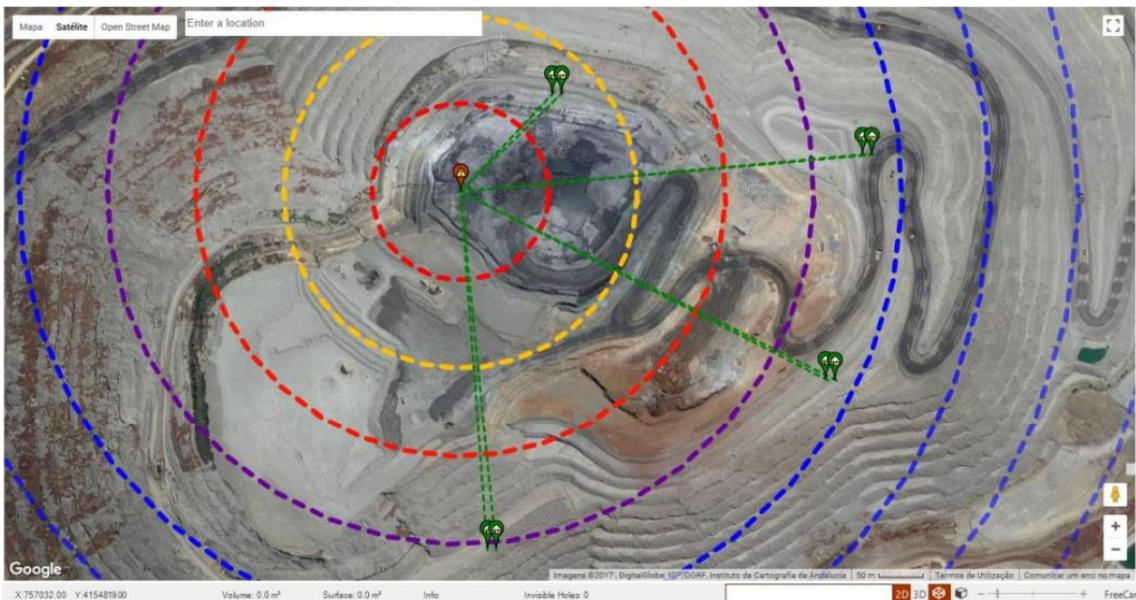

Figure 476 - Creating new structures (10 meters aside).
- Change the position (by 10 meters): will create a new structure 10 meters aside of the other one - Figure 476;